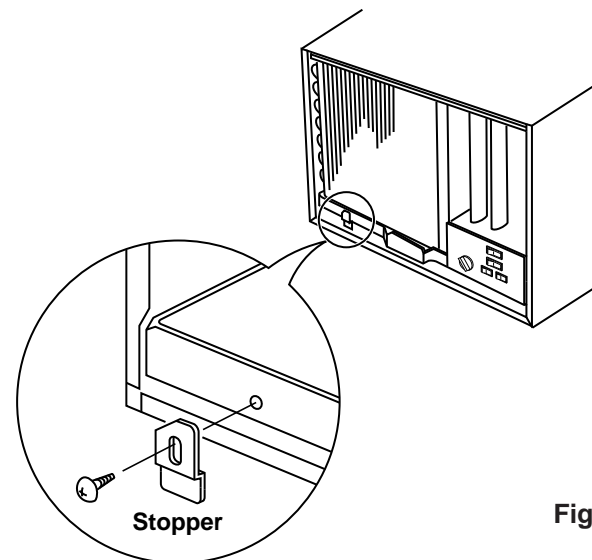

Fig. 8
- (3) Remove the stopper screw attached to the base pan of the unit (Fig. 8)